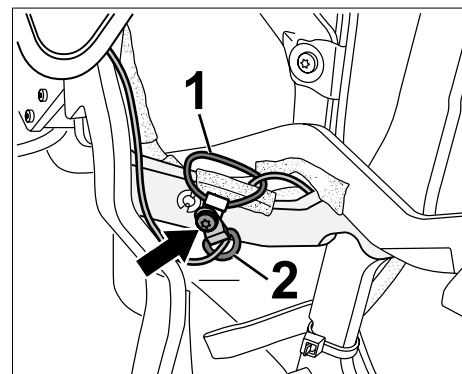

Figure 6
- 2.6 Secure the rubber cord ring $\Rightarrow$ Figure 6 **-Pos. 1-** together with the guide eyelet on the tension rope $\Rightarrow$ Figure 6 **-Pos. 2-** to the convertible top bow using the **new** fastening screw from the rooflining guide repair kit $\Rightarrow$ Figure 6 **-Arrow-**. **Tightening torque 3 Nm (2ftlb.)**
When tightening the fastening screw, make sure that the fastening eyelet of the rubber cord ring $\Rightarrow$ Figure 6 **-Pos. 1-** - as shown in $\Rightarrow$ Figure 6 - is facing **upwards** and the guide eyelet of the tension rope $\Rightarrow$ Figure 6 **-Pos. 2-** is facing **downwards** at a 45° angle.